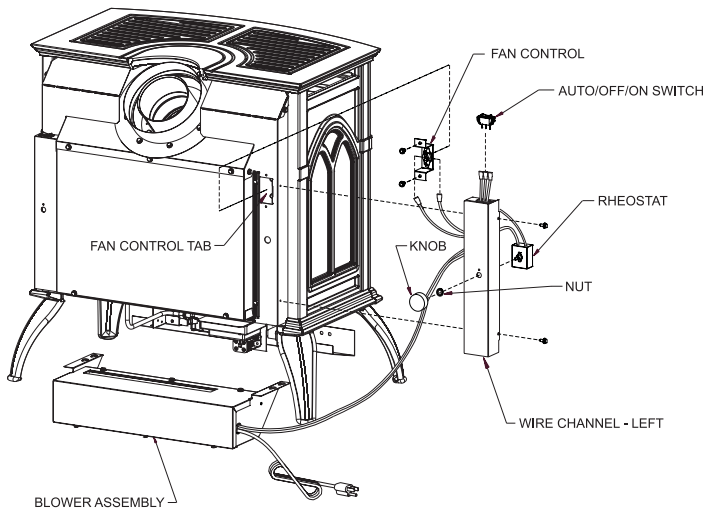

Figure 38
4. Remove wire channel-left from appliance by removing 10 x 1/2" screws on left side of the appliance. **Note:** Some units require a new wire channel. If Rheostat mounting holes are missing from part removed from unit, discard wire channel removed from unit and continue installation with appropriate wire channel shipped with blower. See Figure 38.